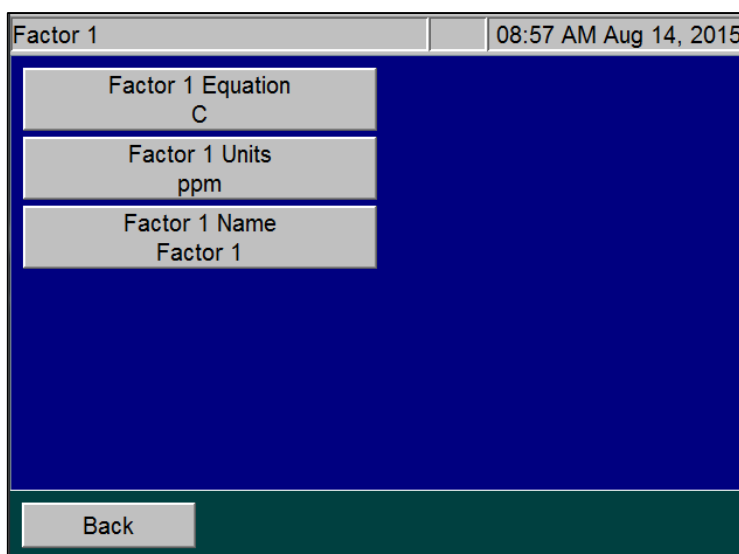

Figure 70: Configuring a Conversion Factor
3. Press the **Factor 1** button (or other **Factor** button to configure that factor). The Factor screen appears with configurable **Factor Equation**, **Factor Units** and **Factor Name** buttons (Figure 70).